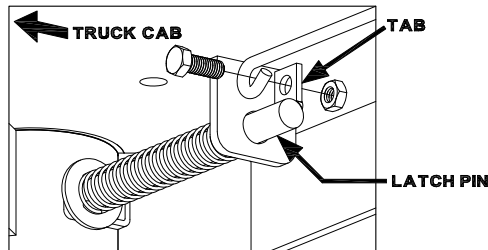

FIGURE E2: Handle installation
2. Attach the handle to the latch pin as shown with the handle on the "cab side" of the square tab welded to the pin. The head of the bolt must be on the handle side, and the lock nut must be on the tab side. The tab is welded to the pin in an offset position so that the handle will be lined up over the center of the pin, See Figure E2 and E3.